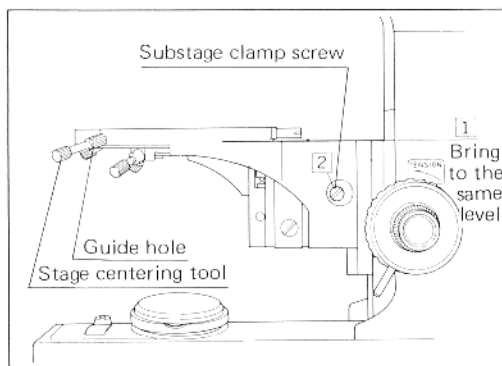

Fig. 5
- 1) Slide the substage condenser holder on the dovetail fitting. Attach in such a position that the top end of the substage is at the level shown in Fig. 5. Fasten it firmly in this position with the clamp screw, using a 5mm screwdriver.